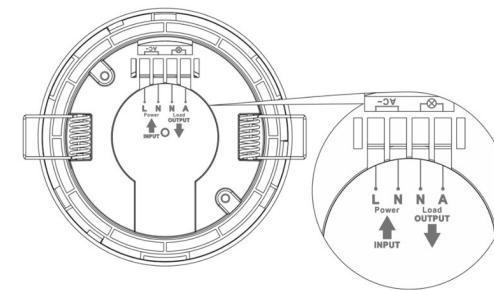

Fig. 2
- Wire terminals on the PIR ensuring correct polarity is observed (see Fig. 2)